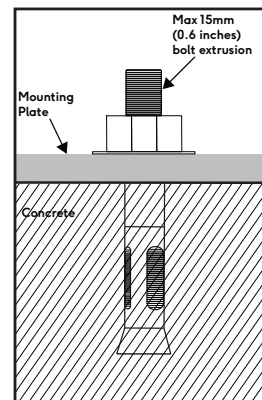

Fig 5/ Silver Bullet Fixing
- Fig 5** Silver Bullet Frame into concrete - M10/50mm (1 15/16") zinc plated sleeve anchor